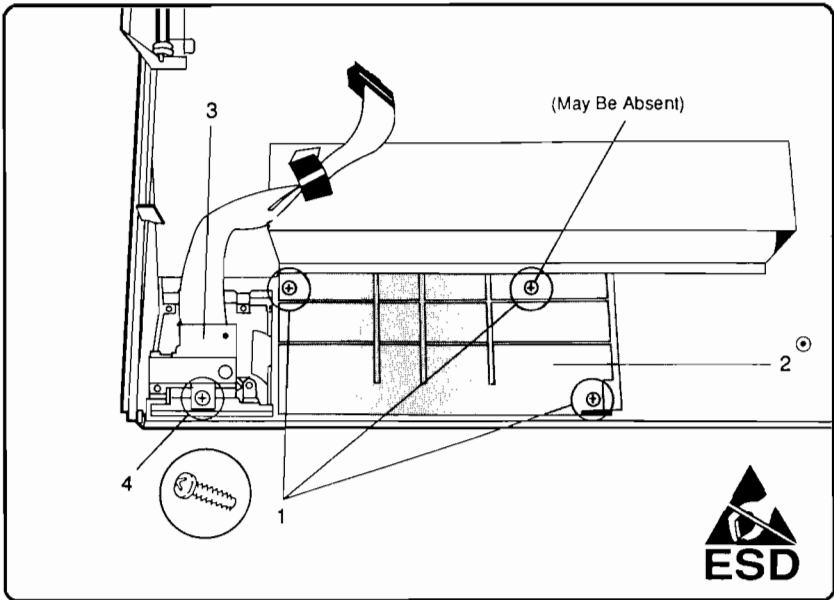

Figure 6-20. Control Panel Removal
3. Remove the screws (2 or 3) securing the Control Panel Cover (see Figure 6-20, callout 1), and the screw (1), securing the Control Panel (callout 4).
4. Remove the Control Panel Cover (Figure 6-20, callout 2), then the Control Panel Assembly (Figure 6-20, callout 3).